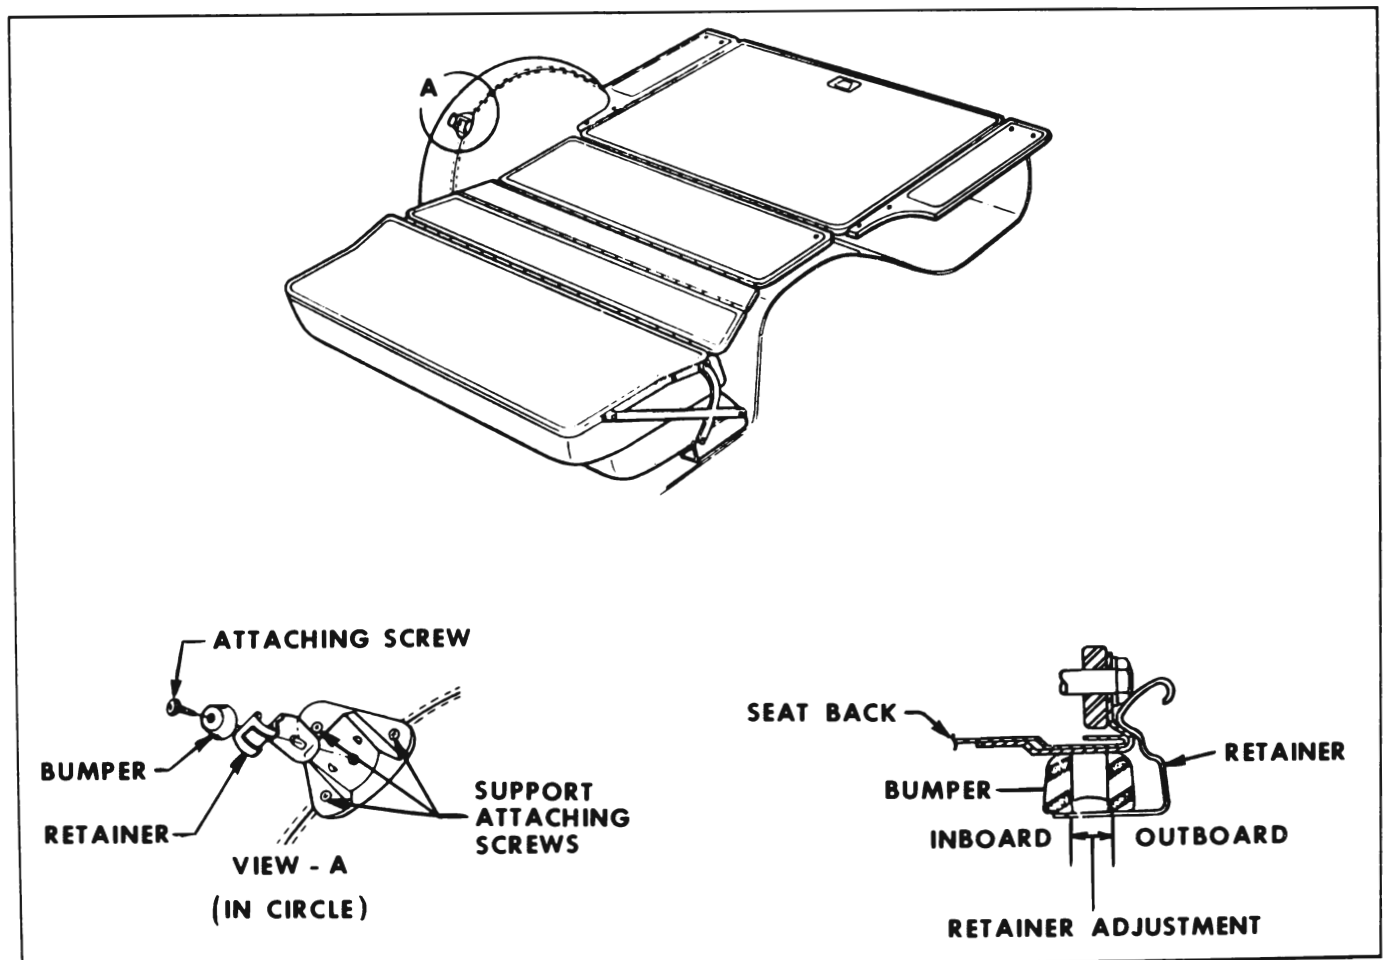

Figure 13-68 — Folding Rear Seat Back Bumper, Retainer and Support
1. With folding rear seat back in down position, remove screw shown in View "A", Figure 13-68, and remove bumper and retainer from wheelhouse support.
2. Remove three (3) screws shown in View "A", Figure 13-68, and remove support from wheelhouse assembly.
NOTE: The folding rear seat back retainer is adjustable inboard or outboard. See Figure 13-68. To adjust retainer, raise folding rear seat back to up position and check retainer tension. Lower folding seat back and loosen retainer attaching screw. Adjust retainer inboard or outboard as required, then tighten attaching screw. Recheck folding seat back assembly. Where required, readjust retainer until